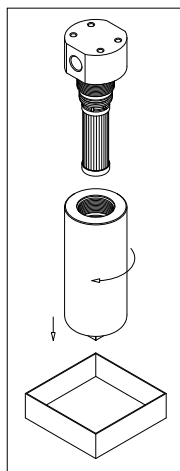

fig. 6
- (Fig. 6) Unscrew the filter bowl after placing a vessel to collect the operating fluid